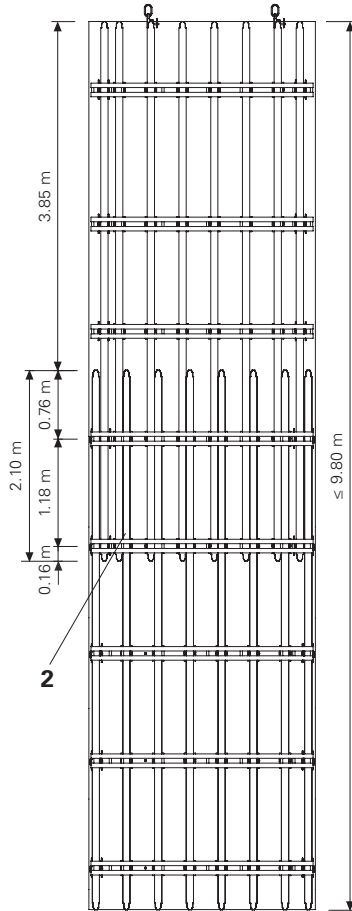

Fig. B10.04
### With overlapped girders (2) for heights of up to 9.80 m. (Fig. B10.04)